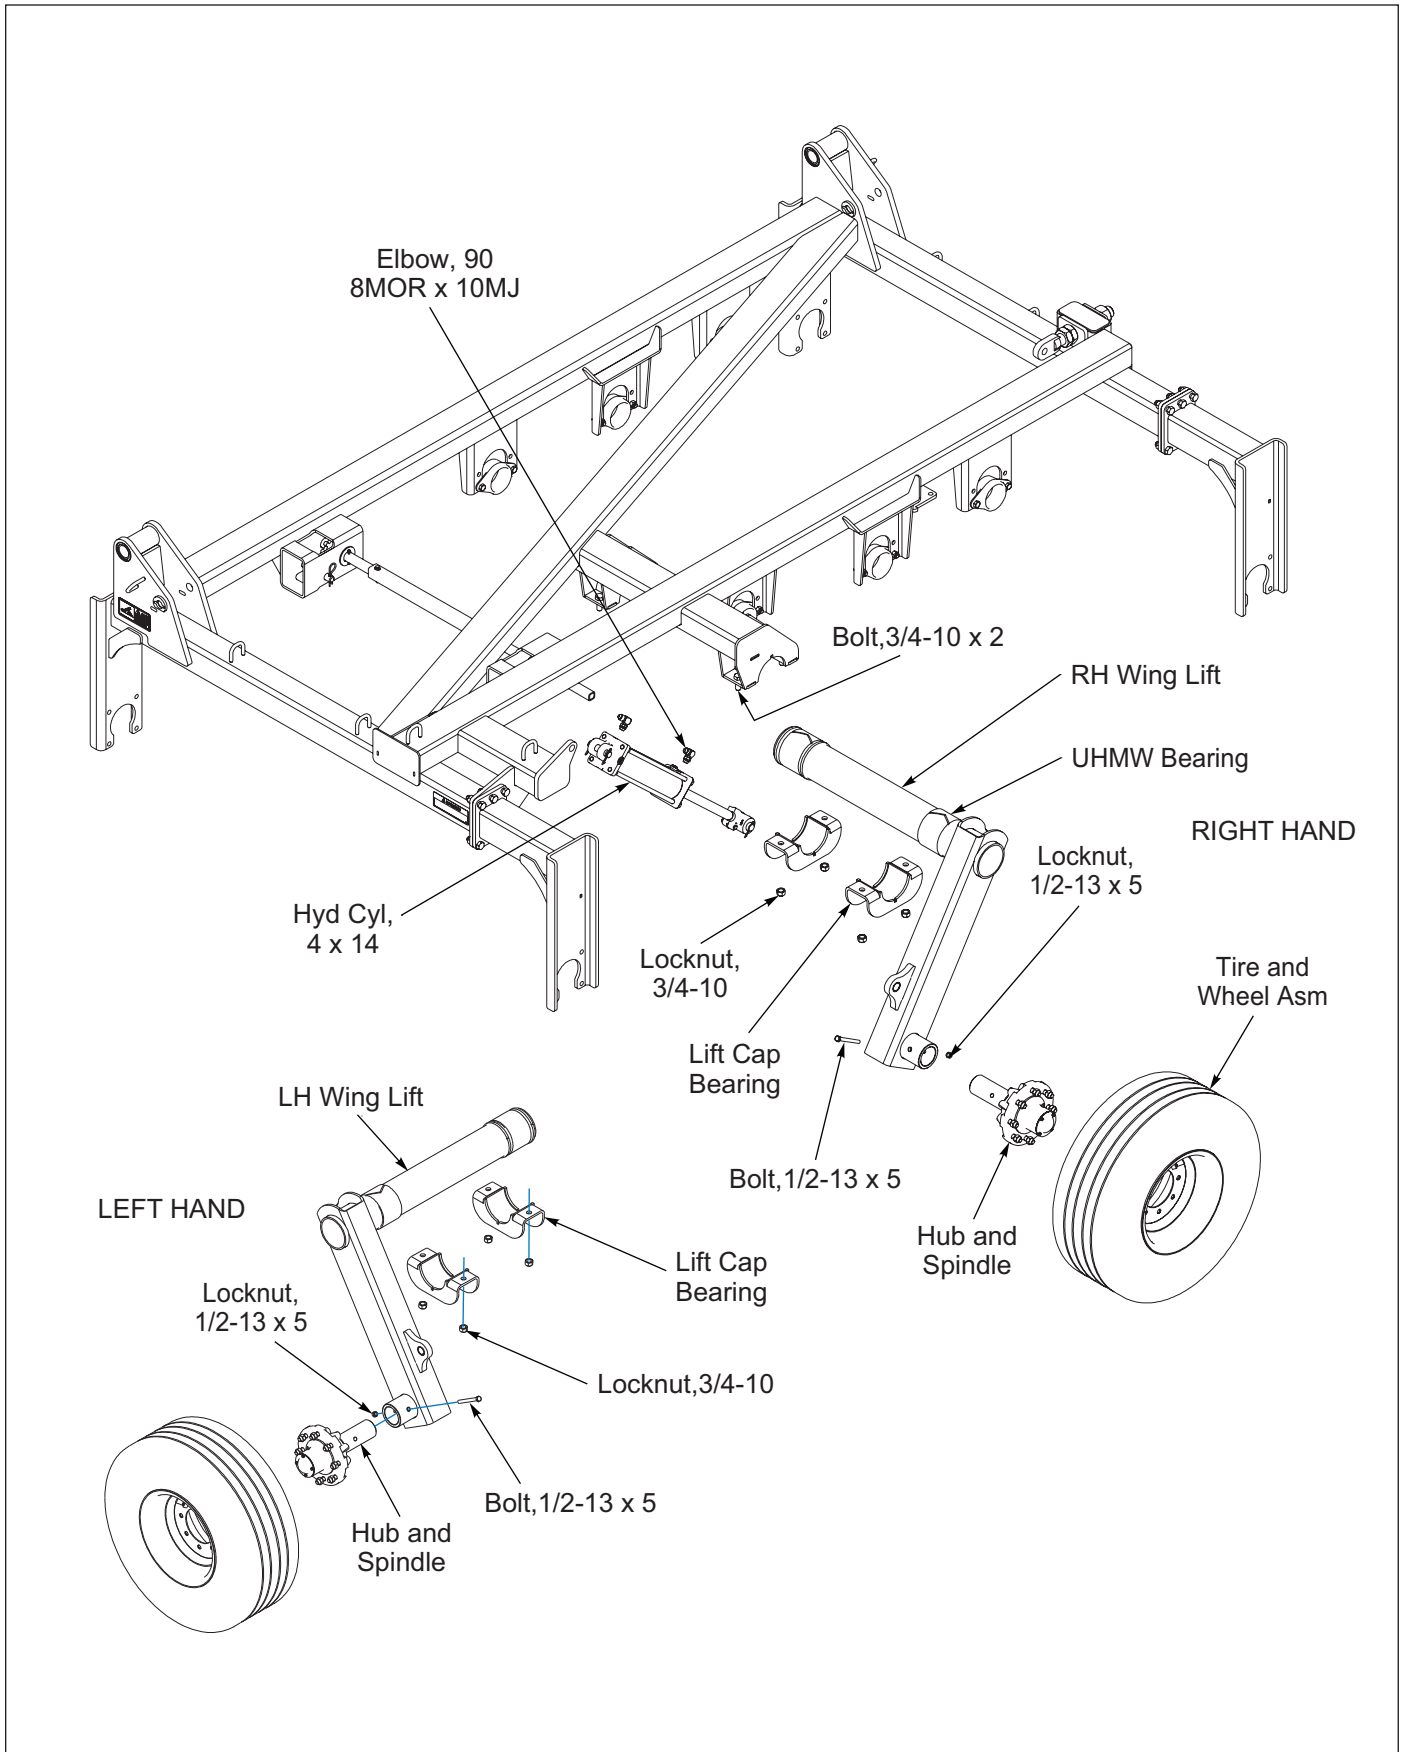

Figure 2-47: Wing Lift Assembly
1. Spread open the two UHMV Bearings and place them onto the Wing Lift. Make sure the mounting surface is free of rust or dirt. **See Figure 2-47.**
3. Remove the eight 5/8-18 Nuts from the Hub. Install the Tire and Wheel Assembly onto the hub. The Pulvi-Mulcher Wing Lifts use 320/70R15 tires and should be inflated to 70 PSI. **See Figure 2-47.**